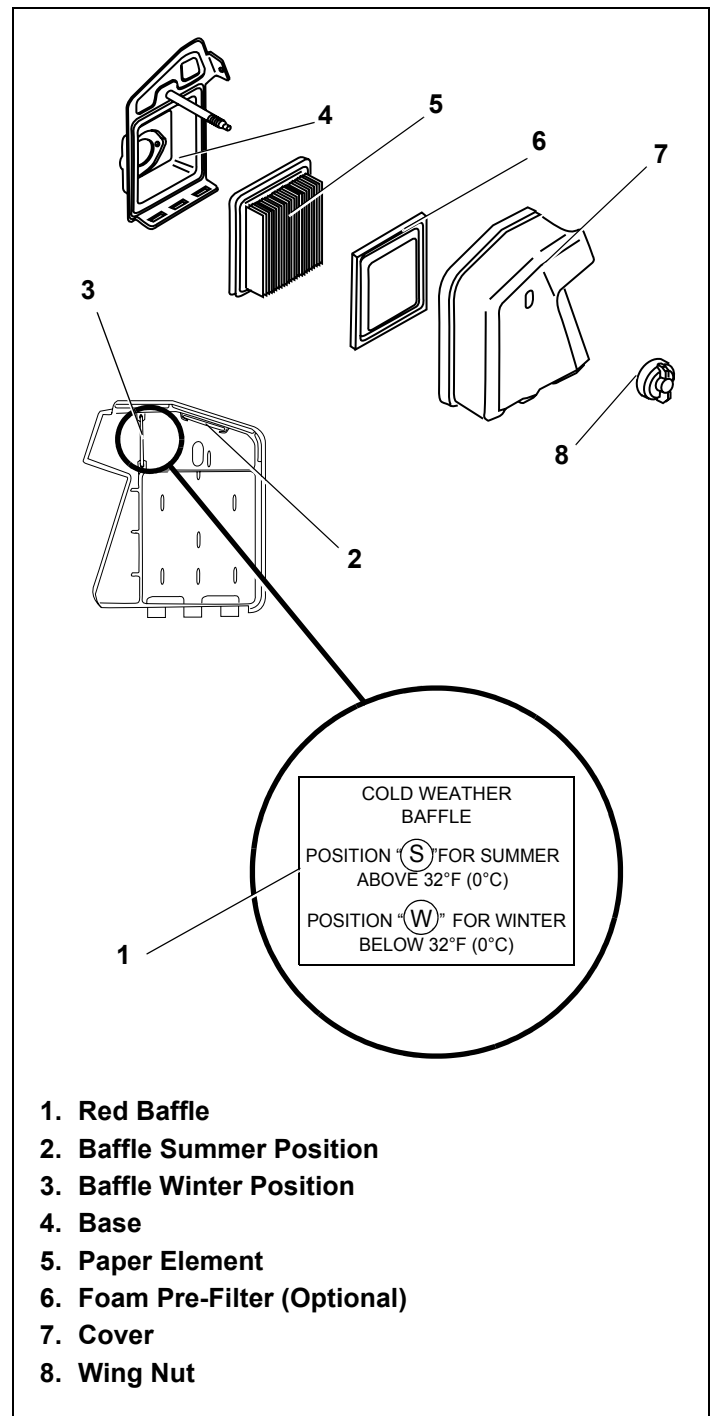

Figure 25. Air Cleaner and Optional Anti-Icing Baffle
1. Remove wing nut and cover. See Figure 25.
1. Remove wing nut from air cleaner cover. See Figure 25.